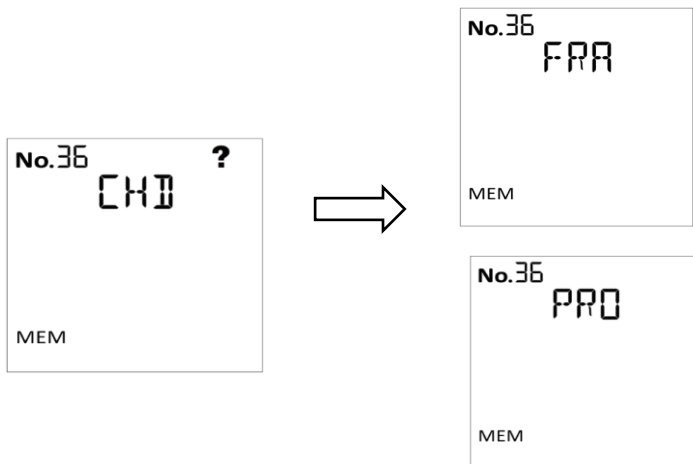

Fig 5.50
- In the LDL query results interface, press right button to enter the CHD assessment selection. There are two modes to choose: FRA or PRO. (Ref Fig 5.50)